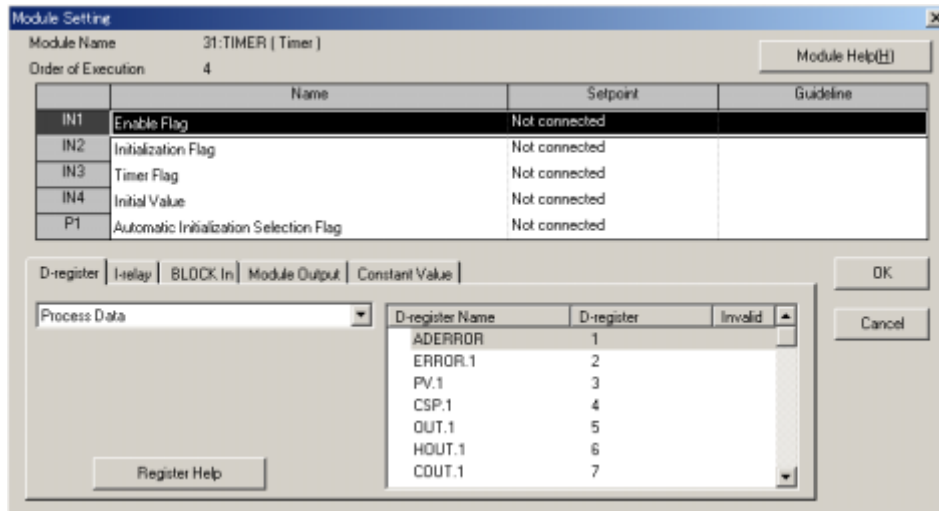

Figure 12.5.6 [Module Setting] Dialog Box
- (1) Click the registered fourth-run TIMER module.
- (2) From the tool menus, choose <Edit [E]>, then <Connection>. The [Module Setting] dialog box (Figure 12.5.6) appears.